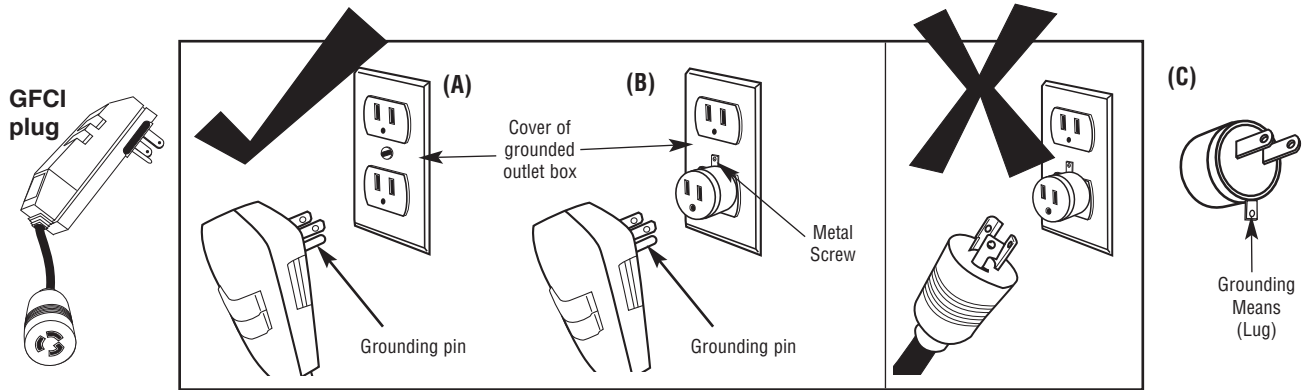

Figure 2
7. This saw is intended for use on a circuit that has an outlet that looks like the one illustrated in Figure 2. The GFCI plug used on the saw has a grounding plug that looks like the plug illustrated in Figure 2(A). A temporary adaptor, which looks like the adaptor illustrated in Figures 2(B) and 2(C), may be used to connect the GFCI plug to a 2-pole
receptacle, as shown in Figure 2(B), if a properly grounded outlet is not available. The temporary adaptor should be used only until a properly grounded outlet can be installed by a qualified electrician. The green-colored rigid ear, lug, etc., extending from the adaptor must be connected to a permanent ground, such as a properly grounded outlet box.